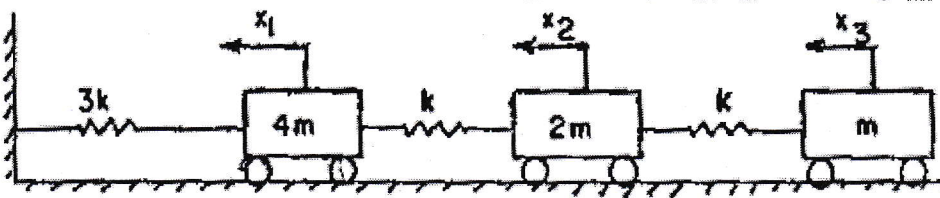

Figure 1
4. Determine the value of influence coefficients for the system shown in figure 1. [10]